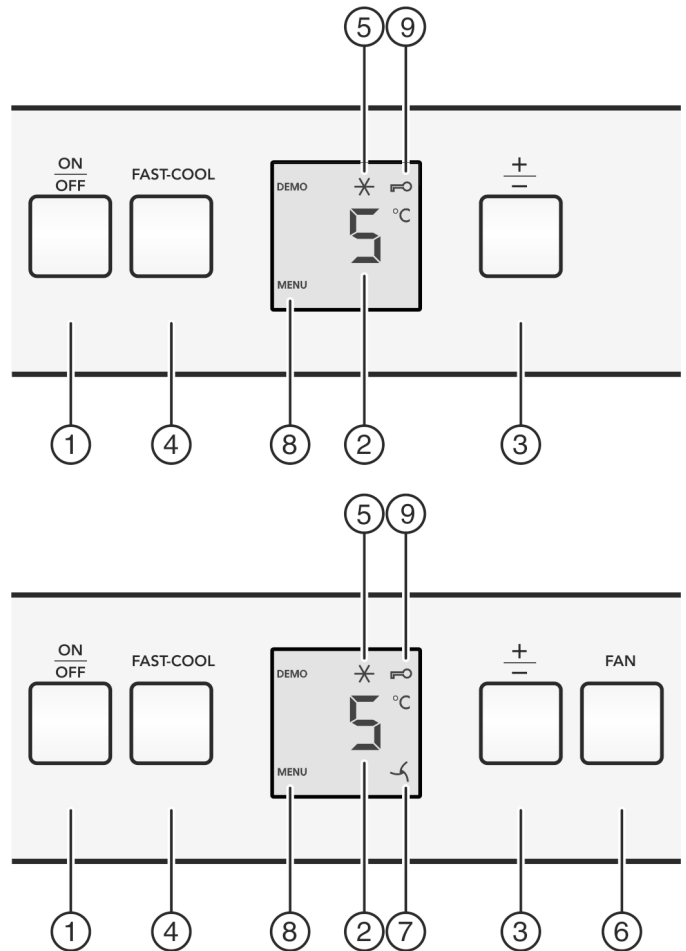

Fig. 2
- ▶ Press the On/Off button Fig. 2 (1).
- ▶ Press the Fast Cool button *Fig. 2 (4)* for approx. 5 seconds.
- ▷ The Menu symbol is shown on the display, *Fig. 2 (8)*.
- ▶ Briefly confirm using the Fast Cool button *Fig. 2 (4)*.
- ▷ The child lock symbol, *Fig. 2 (9)*, lights up on the display.
- ▶ Briefly press the On/Off button *Fig. 2 (1)*.
- ▶ Call up the temperature function: Press the "+/-" setting button *Fig. 2 (3)*.
- ▶ Change the temperature in 1 °C steps: Press the "+/-" setting button *Fig. 2 (3)* until the required temperature is indicated in the temperature display.
- ▶ Briefly press the Fast Cool button *Fig. 2 (4)*.
- ▷ The Fast Cool symbol *Fig. 2 (5)* illuminates in the display.
- ▷ The Fast Cool symbol *Fig. 2 (5)* goes out in the display.
- ▶ Briefly press the fan button *Fig. 2 (6)*.
- ▷ The fan symbol *Fig. 2 (7)* illuminates.
- ▷ The fan symbol *Fig. 2 (7)* goes out.